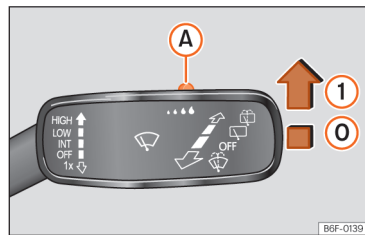

Fig. 87 Windscreen wipers lever: adjust the rain sensor **A**.
Push the lever to the desired position >>> **Fig. 87**.
- ① Rain sensor active; automatic wiping if necessary.
When the ignition is switched off and then back on, the rain sensor stays on and starts operating again when the windscreen wipers are in position >>> Fig. 87 ① and the vehicle is travelling at more than 16 km/h (10 mph).